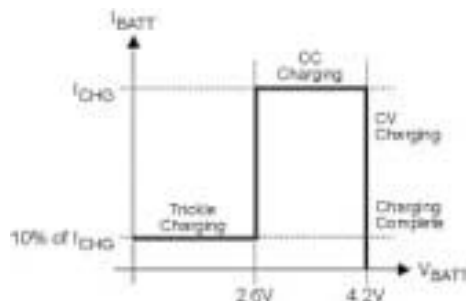

**Figure 2—MP26121 Typical Charging Profile**
Figure 2 shows the typical charging profile for the MP26121. For a fully depleted battery with a terminal voltage lower than 2.6V, the MP26121 will start with the trickle charge (preconditioning) at 10% of the full charge current based on the value of  $R_{\text{CHG}}$ . If the charger stays in trickle mode longer than 32768 cycles,  $\overline{\text{CHG}}$  becomes high impedance, indicating a battery fault. After the battery voltage reaches 2.6V, the charger begins charging using the programmed charge current ( $I_{\text{CHG}}$ ). This is referred to as Constant Current (CC) mode. Once the battery voltage reaches 4.2V, the charger will operate in the constant voltage (CV) mode until the battery is fully charged. The charge current drops during CV mode, and the battery full indication is set when the charge current is reduced to 10% of the programmed constant current value ( $I_{\text{CHG}}$ ). The charge process is then terminated. Recharge will start after the battery voltage is reduced to 4.0V. After 262144 cycles of continuous charging, if the battery still has not reached 10% of the  $I_{\text{CHG}}$  condition, the on-chip timer will terminate the charger to prevent charging the dead battery excessively and the fault condition will be flagged by flashing the  $\overline{\text{CHG}}$  LED.